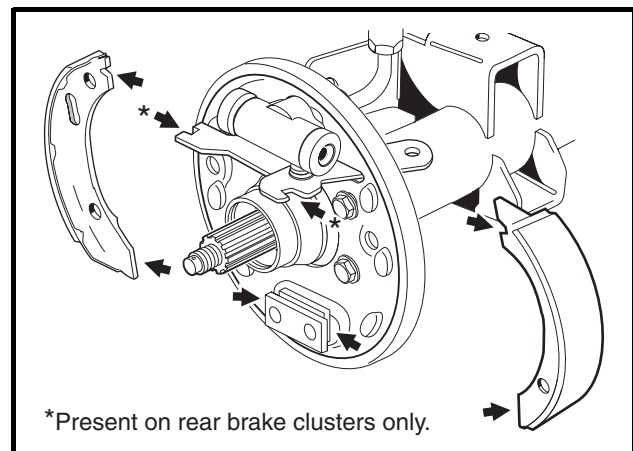

Figure 6-10 Lubricate Rear Brake Cluster
11. Brush a light coat of white lithium NLGI Number 2 grease (Dow Corning BR2-Plus or equivalent) to each end of both brake shoes and into the slots in the brake shoe mounting block. Apply grease to the notches in the mechanical park brake mechanism. (**Figure 6-10, Page 6-11**). **See preceding WARNING.**